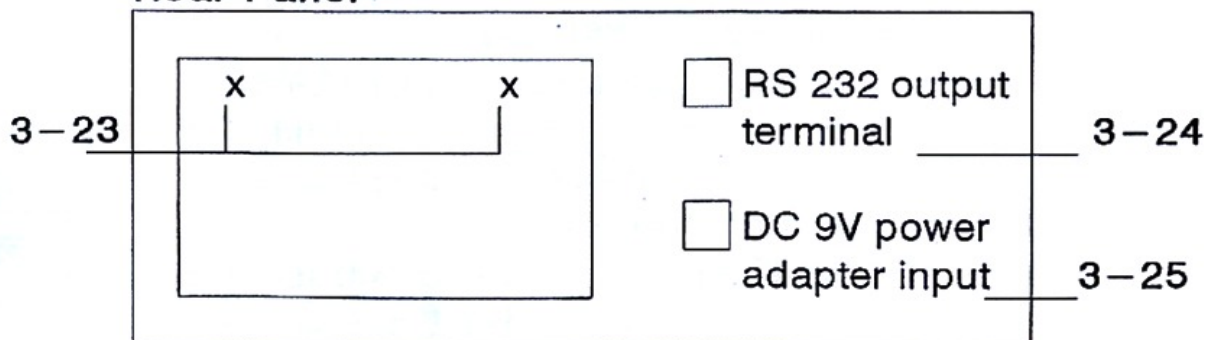

Fig. 1
- 1) Push the " Power Switch " ( 3-13, Fig. 1 ), all the display segments will bright then show 0 or some random values. Now the instrument is ready for measurement.
- 2) Push the " Range Switch " ( 3-15, 3-16, 3-17, Fig. 1 ) to the " 10 MHz ", " 100 MHz " or " 2.7 GHz " position according to the measurement required.
- 3) a. Input the measured signal to Channel A/BNC socket ( 3-2, Fig. 1 ) via. BNC cable ( optional, PB-21 or BB-22 ) if the measured frequency is within 10 MHz.
b. Input the measured signal to Channel B/N type socket ( 3-3, Fig. 1 ) via N type cable ( optional, NN-23 ) if the measured frequency is within 10 MHz to 100 MHz.
c. Input the measured signal to Channel C/N type socket ( 3-4, Fig. 1 ) via N type cable ( optional, NN-23 ) if the measured frequency is within 100 MHz to 2700 MHz.
- 4) According the different input range, select the Sensitivity Switch ( 3–19, 3–20, 3–21, Fig. 1 ) to the " HIGH " ( high sensitivity ) or " NORMAL " ( normal sensitivity ) position.
- 5) Slide the Gate Time Switch ( 3–18, Fig. 1 ) to the " FAST " or " SLOW " position to determine the convenient sampling time & display resolution.
- 6) The display unit is Hz for 10 MHz range. The display unit is MHz for 100 & 2.7 GHz range. The Gate Indicator ( 3–22, Fig. 1 ) will be flashed one for each sampling time passed.
- \* If select to " SLOW " position, then push The RESO. button ( 3–10, Fig. 1 ) at once 3 times will result 3 kinds Sampling Time & Resolution combination. For more details please see the following table :
During the measurement, it will hold the display values, if push the " HOLD Button " ( 3-8, Fig. 1 ) at once.
- 1) During the measurement, the circuit will memorize the last measured values if push the " REL. Button " ( 3-9, Fig. 1 ) at once, then LCD will show "0" & a "REL" marker appear on the right down corner.
1) Input the measured signal to Channel A/BNC socket ( 3-2, Fig. 1 ) via. BNC cable ( optional, PB-21 or BB-22 )
2) Select the " Period Switch " ( 3-14, Fig. 1 ) Select the " 10 MHz range Sensitivity Switch " Switch ( 3-19, Fig. 1 ) to the " HIGH " ( high sensitivity ) or " NORMAL " ( normal sensitivity ) position.
3) Slide the Gate Time Switch ( 3–18, Fig. 1 ) to the " FAST " or " SLOW " position to determine the convenient sampling time & display resolution.